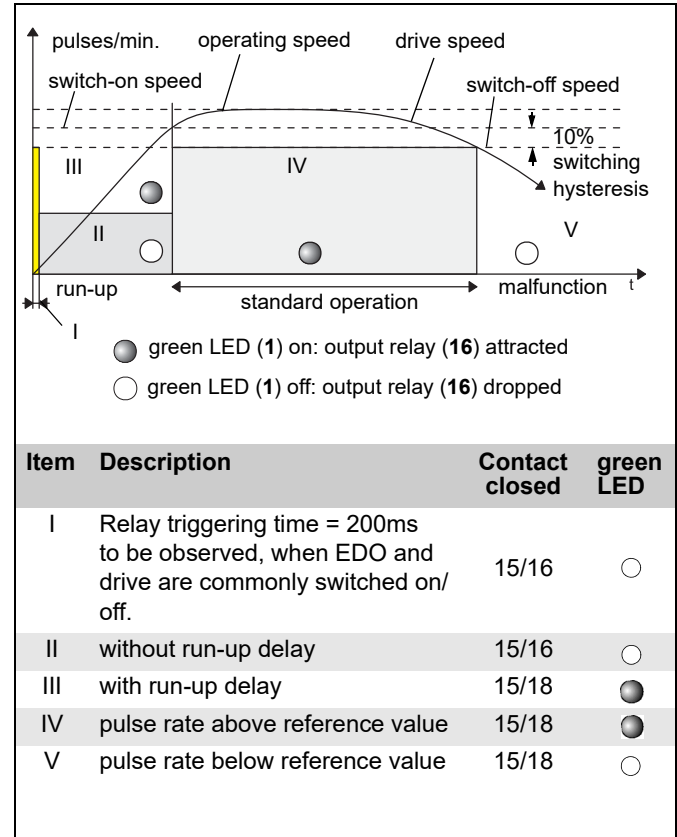

Fig. 3-3: Time chart for **low** speed monitoring device
If the set speed is not reached, the output relay (16) drops and the green LED (1) extinguishes (s. fig. 3-3).